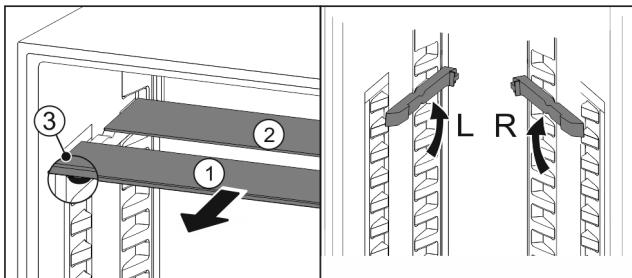

Fig. 130
- Glass shelves individually pull forward Fig. 130 (1).
- Glass shelf Fig. 130 (1) with decorative edge lies in front.
- Stop Fig. 130 (3) points downwards.